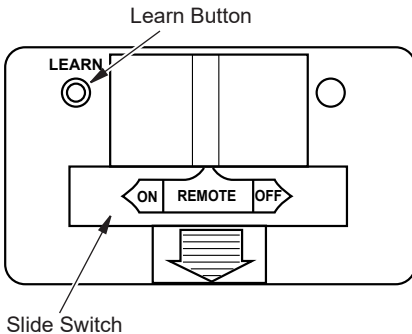

Figure 25 - Receiver
1. Place the slide switch on the receiver in the remote position (see Figure 25).